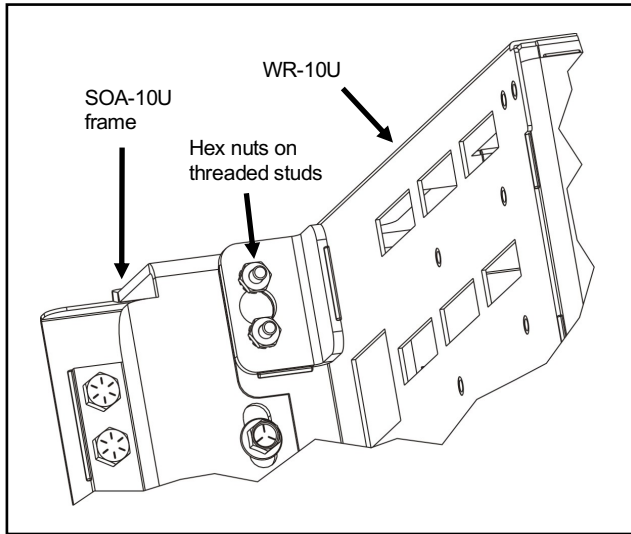

Figure 5. WR-10U attachment (one corner shown)
- ① Locate eight of the included #10-32 hex nuts.
- ② Choose a preferred orientation for the WR-10U or WR-15U and align its mounting holes with the four pairs of threaded studs on the face of the SOA-10U frame (one pair in each corner). Hex nuts will be installed on the studs, as shown in Figure 5.